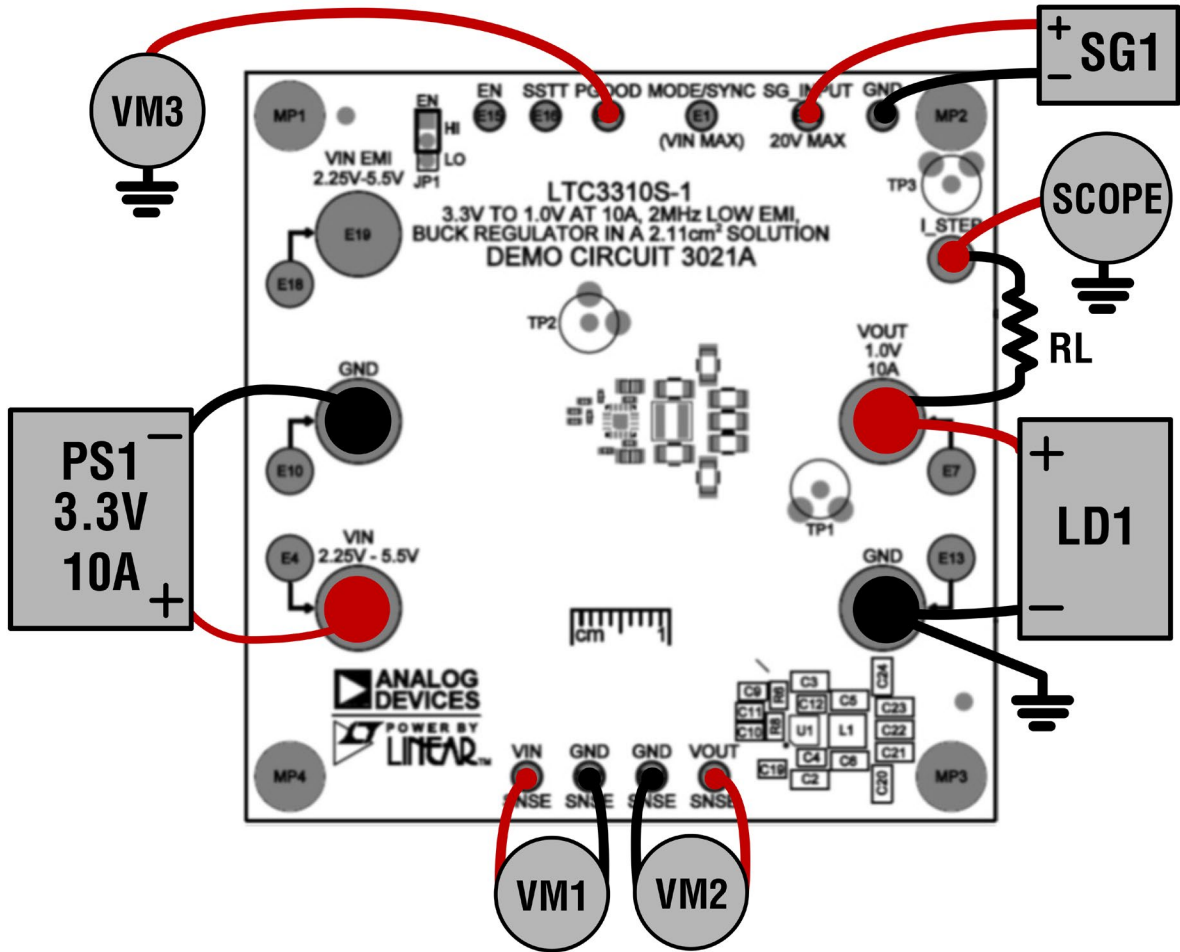
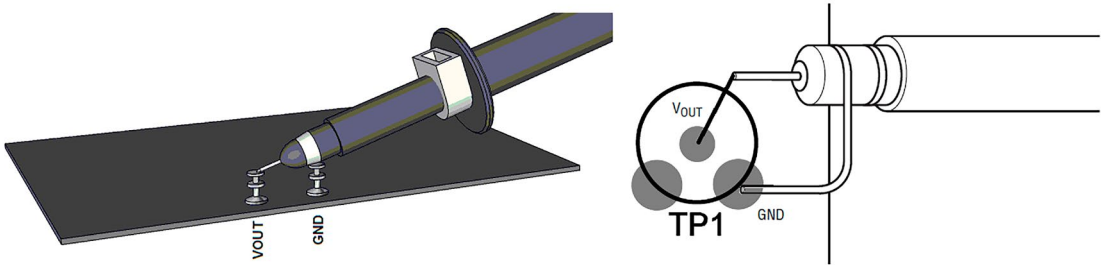

Figure 2. Test Setup for the DC3021A Demo Board
Figure 3. Technique for Measuring Output Ripple and Step Response
Demonstration circuit 3021A is easy to set up to evaluate the performance of the LTC3310S-1. Refer to Figure 2 for proper measurement equipment setup and follow the procedure below.
**NOTE:** For accurate  $V_{IN}$ ,  $V_{OUT}$  and efficiency measurements, measure  $V_{IN}$  at the  $V_{IN}$  SNSE and GND SNSE turrets and  $V_{OUT}$  at the  $V_{OUT}$  SNSE and GND SNSE turrets as illustrated as VM1 and VM2 in Figure 2. When measuring the input or output voltage ripple, care must be taken to avoid a long ground lead on the oscilloscope probe. Measure the output voltage ripple by touching the probe tip directly across the output turrets or to TP1 as shown in Figure 3.
3. Slowly increase PS1 to 1.0V. If AM1 reads less than 20mA, increase PS1 to 3.3V. Verify that VM1 reads 3.3V and VM2 reads 1.2V. Record VM1, VM2, VM3 AM1 and AM2. Connect an oscilloscope voltage probe as shown in Figure 3. Set Channel to AC-coupled, voltage scale to 20mV and time base to 10 $\mu$ s. Record  $V_{OUT}$  ripple voltage. Verify that PGOOD voltage is above 3V. Calculate die temperature using Equation 1.
7. To test the transient response with a base load, add the desired resistor to produce a minimum load between  $V_{OUT}$  and I\_STEP turrets ( $R_L$  shown on Figure 2). Note that the total load resistance will be  $R_L$  plus R10 (50m $\Omega$ ). Adjust a signal generator with a 10ms period, 10% duty-cycle and an amplitude from 1V to 2V to start.